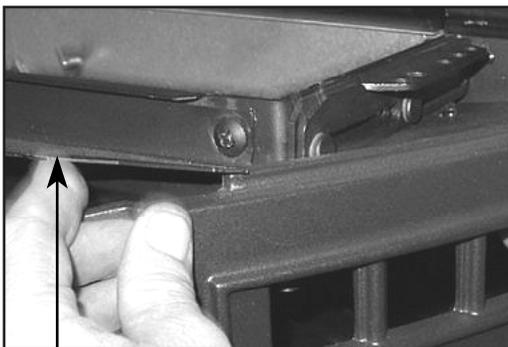

Figure 32.3
- c. Slide the cast side downward as shown in **Figure 32.3.** (The top has been removed to show the details.)